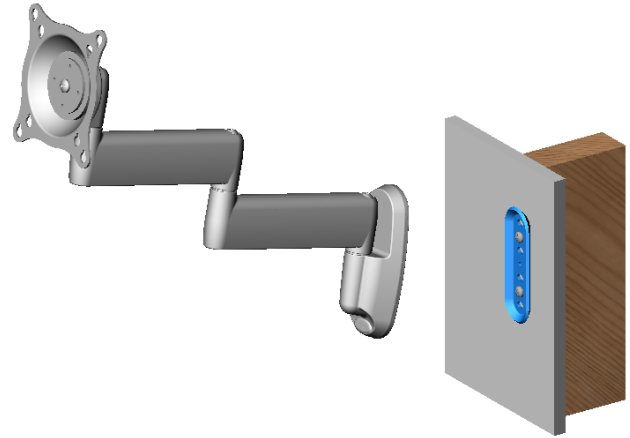

Figure 5. Install MSP-SA on Wall Bracket
1. Install the MSP-SA on the wall bracket by placing the top of the MSP-SA over the top of the wall bracket and pushing the bottom of the MSP-SA over the bottom of the wall bracket (see Figure 5).